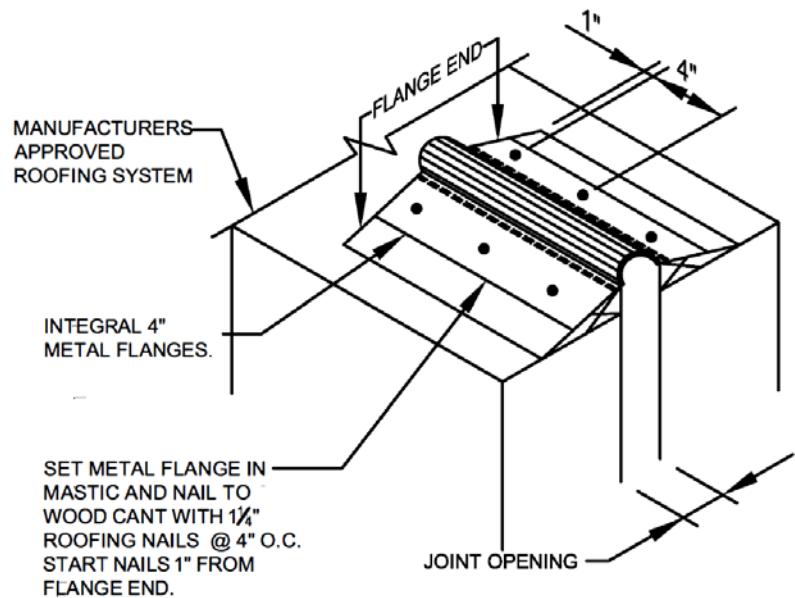

Figure 3
3. Set flange in membrane compatible mastic and nail to wood cant w/ (1) 1 $\frac{3}{4}$ " roof nail @ 4" o.c. start nails 1" from flange end. *Repeat steps 1 - 3 for opposite flange, being careful to align second flange with chalk line to allow proper bellows shape. **See Figure 3**